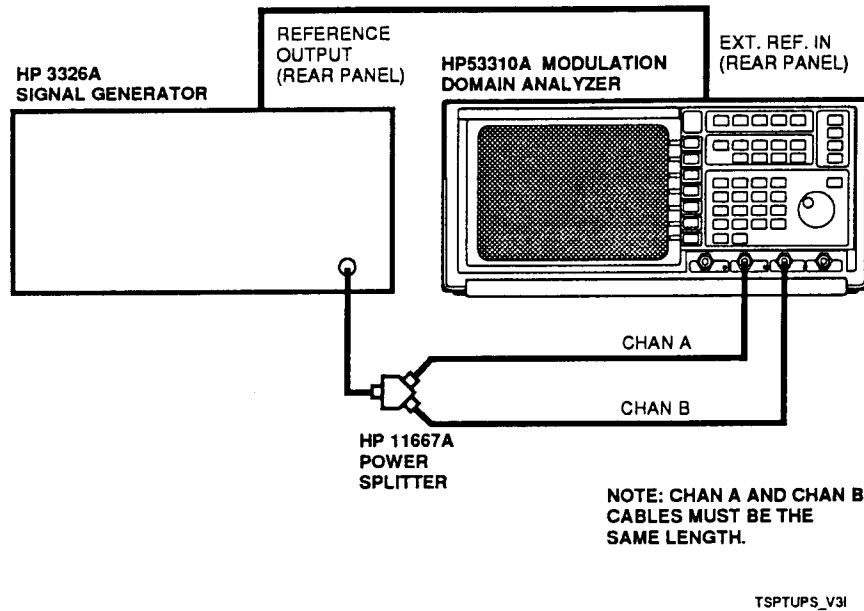

Figure 2-7. Test Setup for Performance Tests Using Power Splitter
- 6 Connect source output to Channels A and B of the HP 53310A as shown in *Figure 2-7*.
In Figure 2-7, the channels A and B cables from the power splitter MUST be the same length.